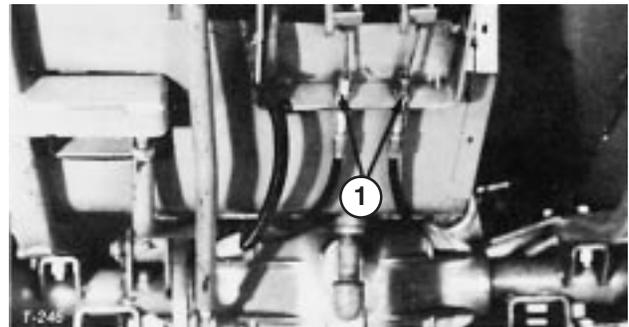

Figure 47
2. To reduce free travel of brake pedals — tighten the brakes — loosen front nut on threaded end of brake cable (Fig. 47). Then tighten rear nut to move cable backward until brake pedals have 1/2 to 1 inch (13 mm to 25 mm) of free travel. Tighten front nut after brakes are adjusted correctly.